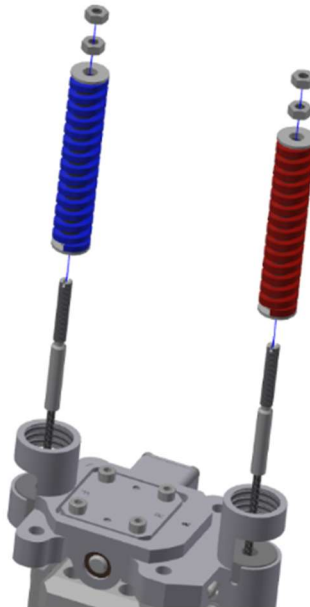

Figure 4-44. Insert neck springs onto cables
- 4.3.16 Install the front and rear spring assemblies (474-2305 and 474-2304) onto the front and rear neck cables. They will sit on top of the spring load cells. Loosely screw both M5 X 0.8 thin profile adjustment nuts to the top of the front and rear spring cables (Figure 4-44). Both springs should not be under compression and the Head/Neck Mounting Platform (474-2302-A) is mostly free to rotate about the occipital condyle.